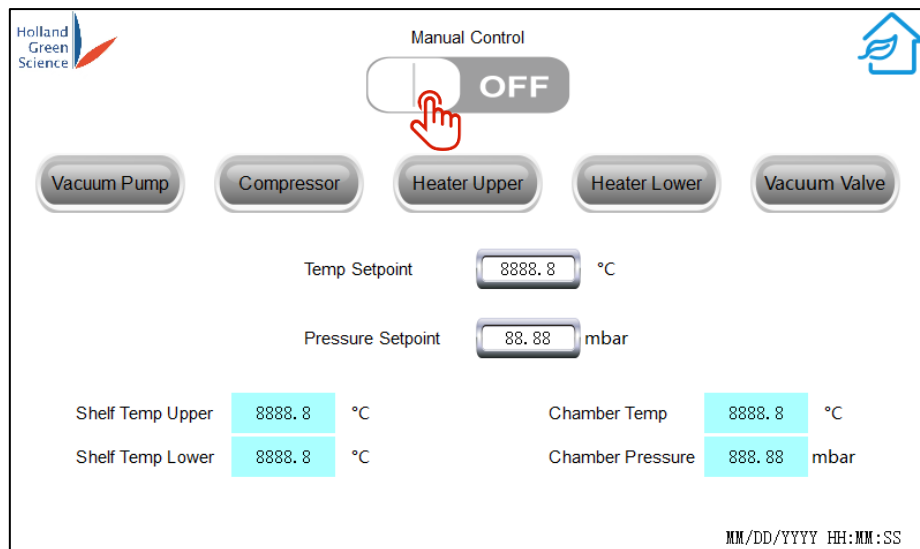

Figure 13
To go back pages, click on  that's present in most screens (Figure 13).
- Manual Control On/Off: click “On” to enter Manual Control Mode (Figure 13).